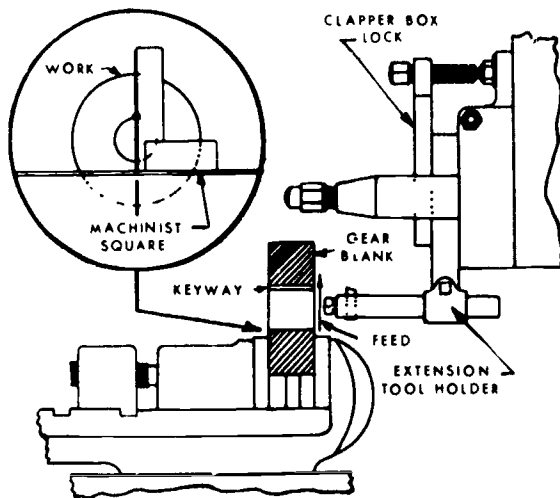

Figure 2-26. Aligning gear and positioning extension toolholder.
**Internal keyseats.** Internal keyseats are machined with a setup like the one shown in figure 2-26. Note that the clapper box is in the vertical position and locked to keep it from moving, and that the tool is held in an extension toolholder and fed upward for the depth of cut. Internal keyseats are machined in much the same way as external keyseats.
**Exercises (421):**